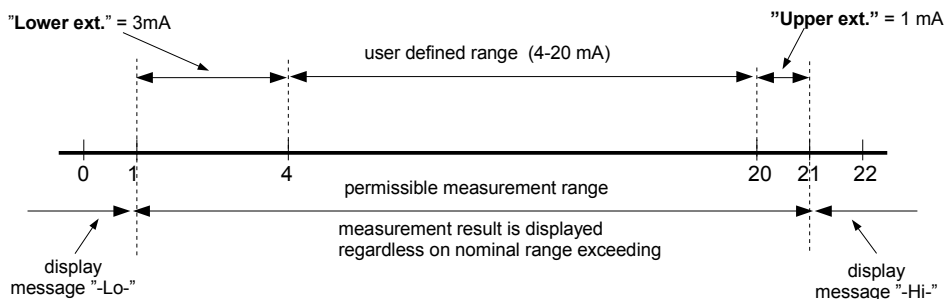

Fig. 7.22. Defining permissible measurement range for an example of settings of **"Upper ext."** and **"Lower ext."** parameters (for user range 4-20 mA)
**"Upper ext."** - parameter defining the allowable range of input currents (Fig. 7.22).